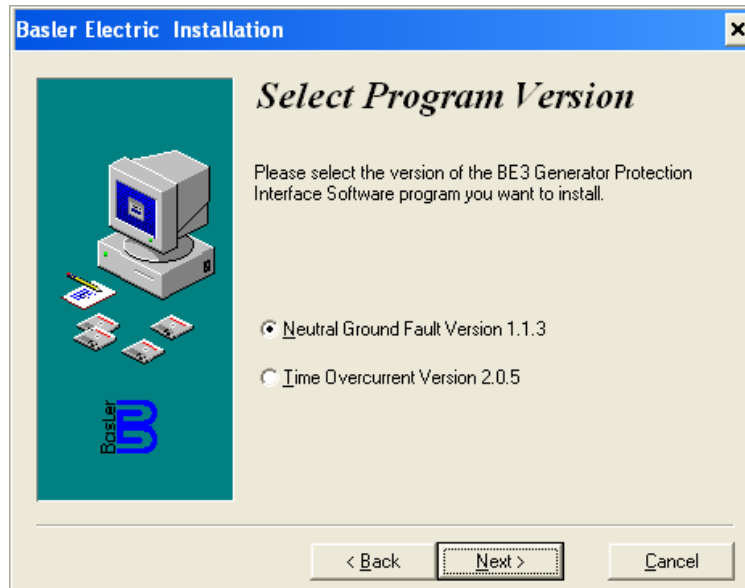

Figure 5-1. Select Program Version Dialog Box
4. During the installation process, a dialog box (Figure 5-1) will appear and require that you select the version of software to be installed. If your relay style number is x1xxxx, select the Time overcurrent version for installation. If your relay style number is x2xxxx, select the Neutral Ground Fault version for installation.